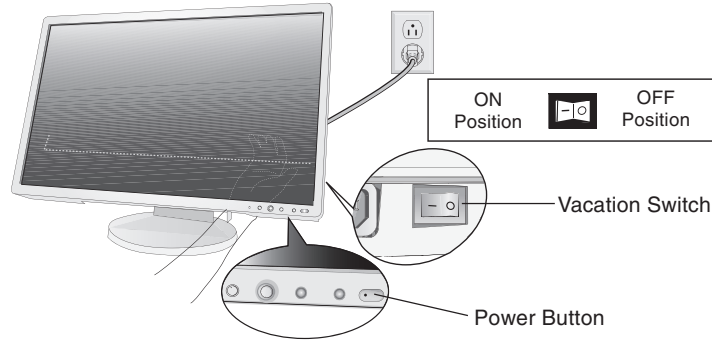

Figure E.1
8. Connect the power cord to the power outlet (**Figure E.1**).
9. The Vacation Switch on the back side of the monitor, near the AC inlet, must be turned on. Turn on the monitor with the front power button and then the computer (**Figure E.1**).